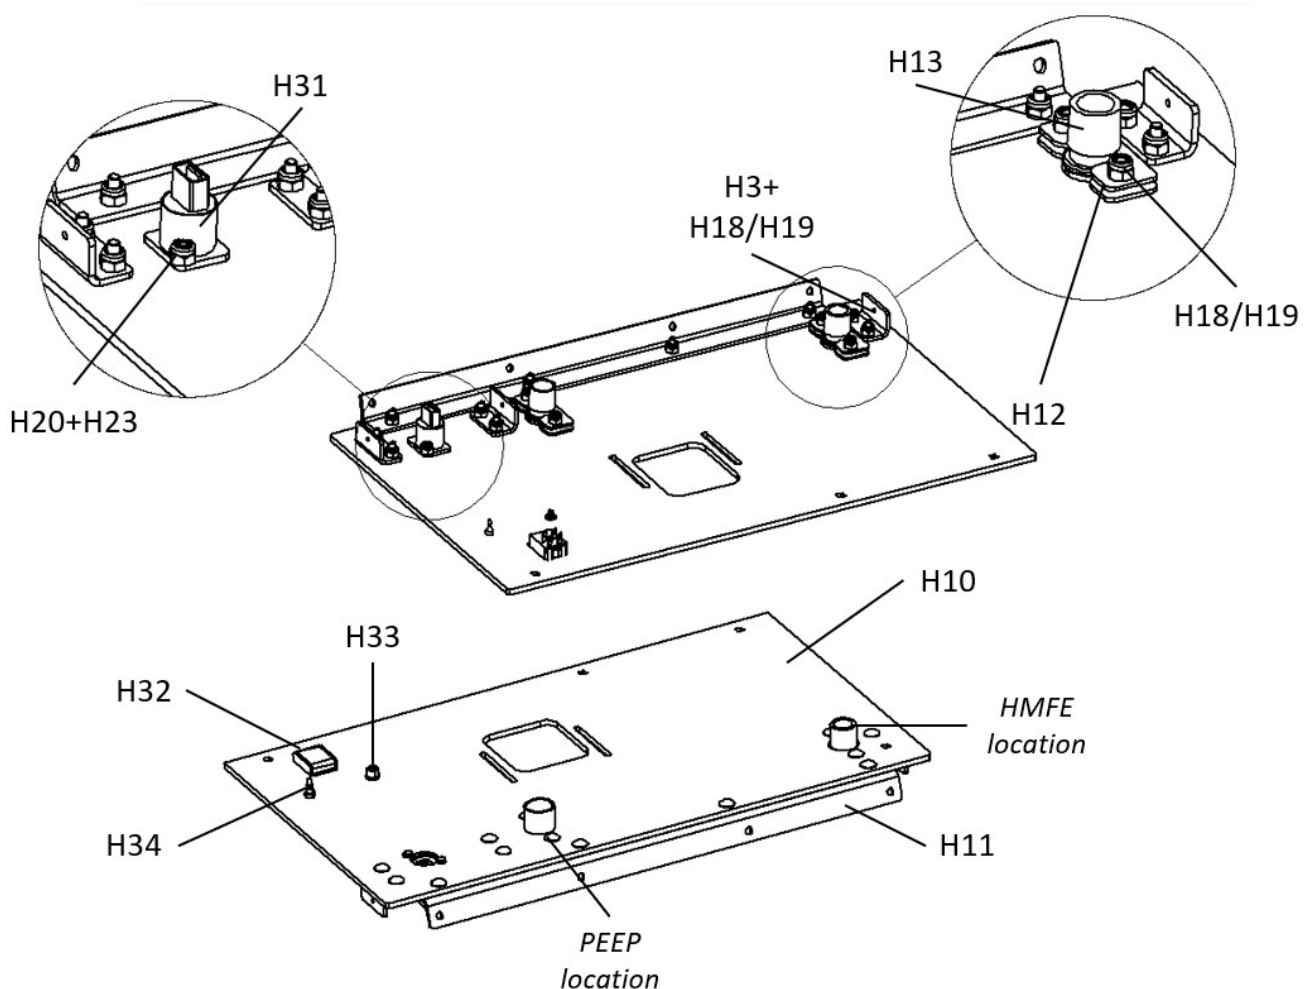

Figure 13: Overview of the Front Plate Assembly
1. Orientate the H10 Front Plate as illustrated in figure 13.
2. Position the H11 Connector Blunt and the 3x H3 Connectors Small onto the plate. Make sure their orientation resembles figure 13. Fasten the connectors with 10x H18/H19 carriage bolts and nuts.
4. Place the tube connectors through the two round holes in the Front Plate as illustrated in figure 13 and fixate their Connector Brackets to the Front Plate with 4x H18 carriage bolts and H19 nuts.
6. Place the H22 OnOffSwitch, H33 Temperature Plug and the H34 Pressure Luer as illustrated in figure 13.